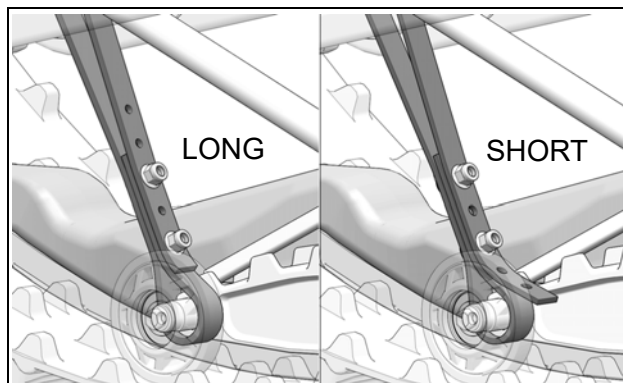

Figure 22
- Slide the free end of the strap up or down to align the holes of the desired position with the bolts in the strap. Figure 22.